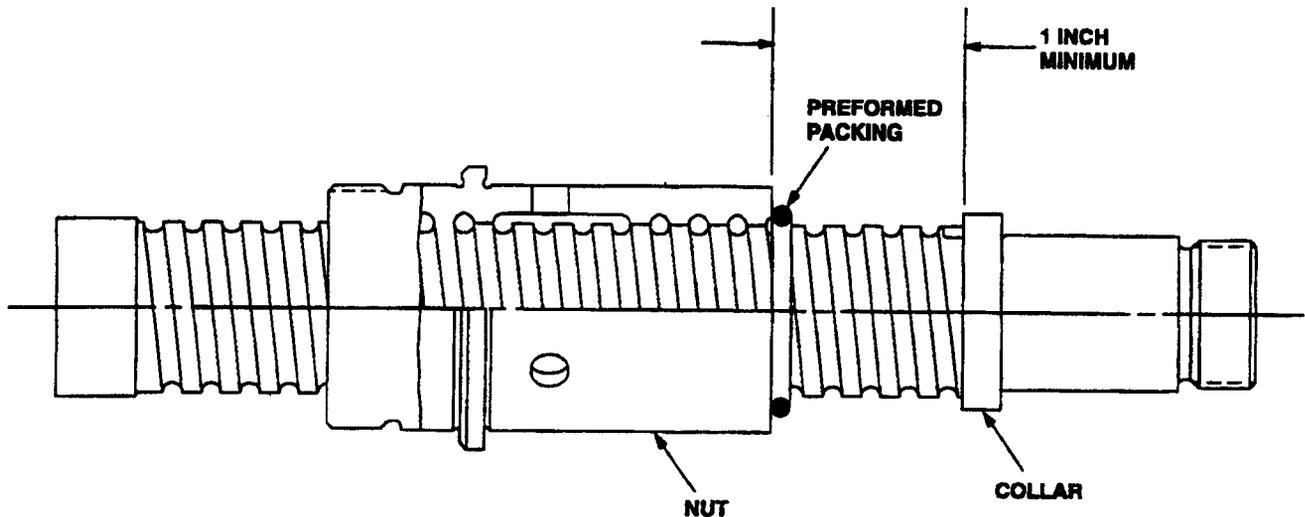

Figure 1. Install a Preformed Packing Against the Nut on the Servo Ballscrew
- 1 Turn the nut on the ballscrew to move it a minimum of 1 inch from the collar. See Figure 1.
- 2 Install a preformed packing or equivalent device on the servo ballscrew from the end with the collar. A preformed packing such as PN M83248/1-115 will fit correctly. Move the packing along the ballscrew until it is against the nut so that the nut can not move in the direction of the collar. See Figure 1.